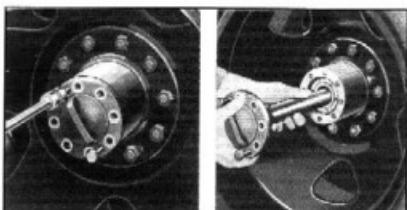

Fig. 15—Loosening and Removing Axle Shaft
- Install two $7/16$ " - 14 cap screws in the threaded holes provided in the axle shaft flange. Turning these cap screws alternately, the axle shaft may easily be removed. Remove the axle shaft and aluminum gasket, Fig. 15.